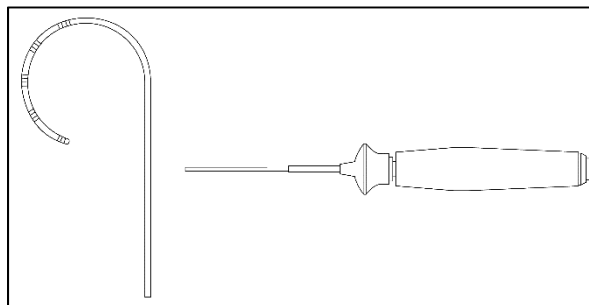

Figure 1: Polaris X Catheter
The Reprocessed Polaris X Steerable Diagnostic EP Catheters are designed for use in intracardiac pacing and recording only. The catheters have been designed to carry electrical signals for the purpose of endocardial stimulation (pacing) or recording. The catheter is a uni-directional steerable catheter. The curve is actuated by means of a patented thumb-slide (see Figure 1).
- The tip can be deflected to allow for curve changes instantly by using the thumb slide mechanism. By pushing the thumb slide down, the curve becomes tighter. By pushing the thumb slide up, the curve straightens (Figure 1).